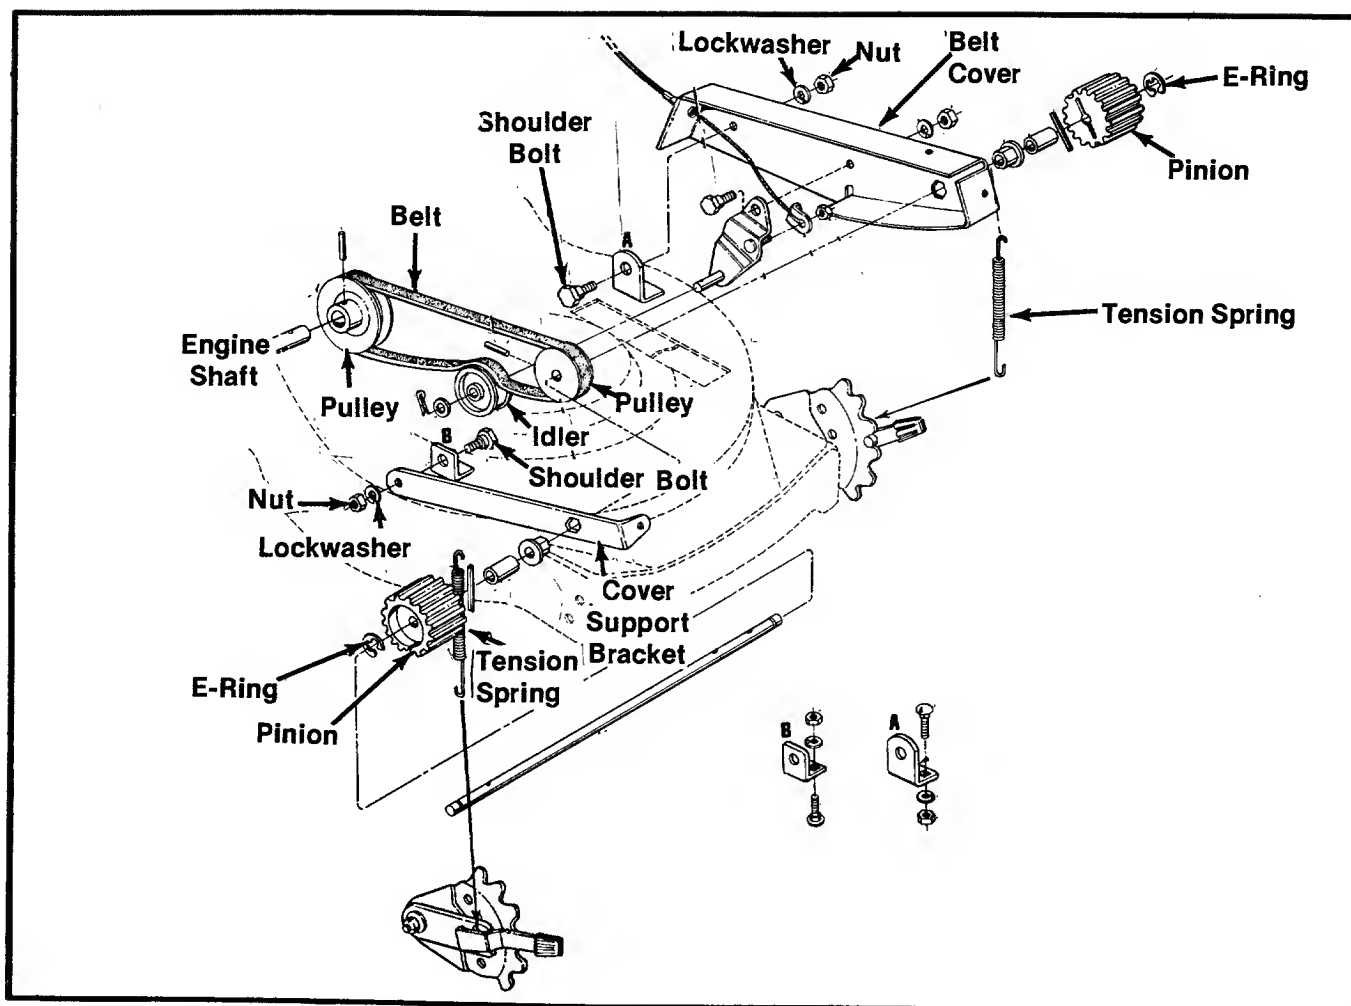

FIGURE 21
1. Remove both tension springs. (See figure 21.)